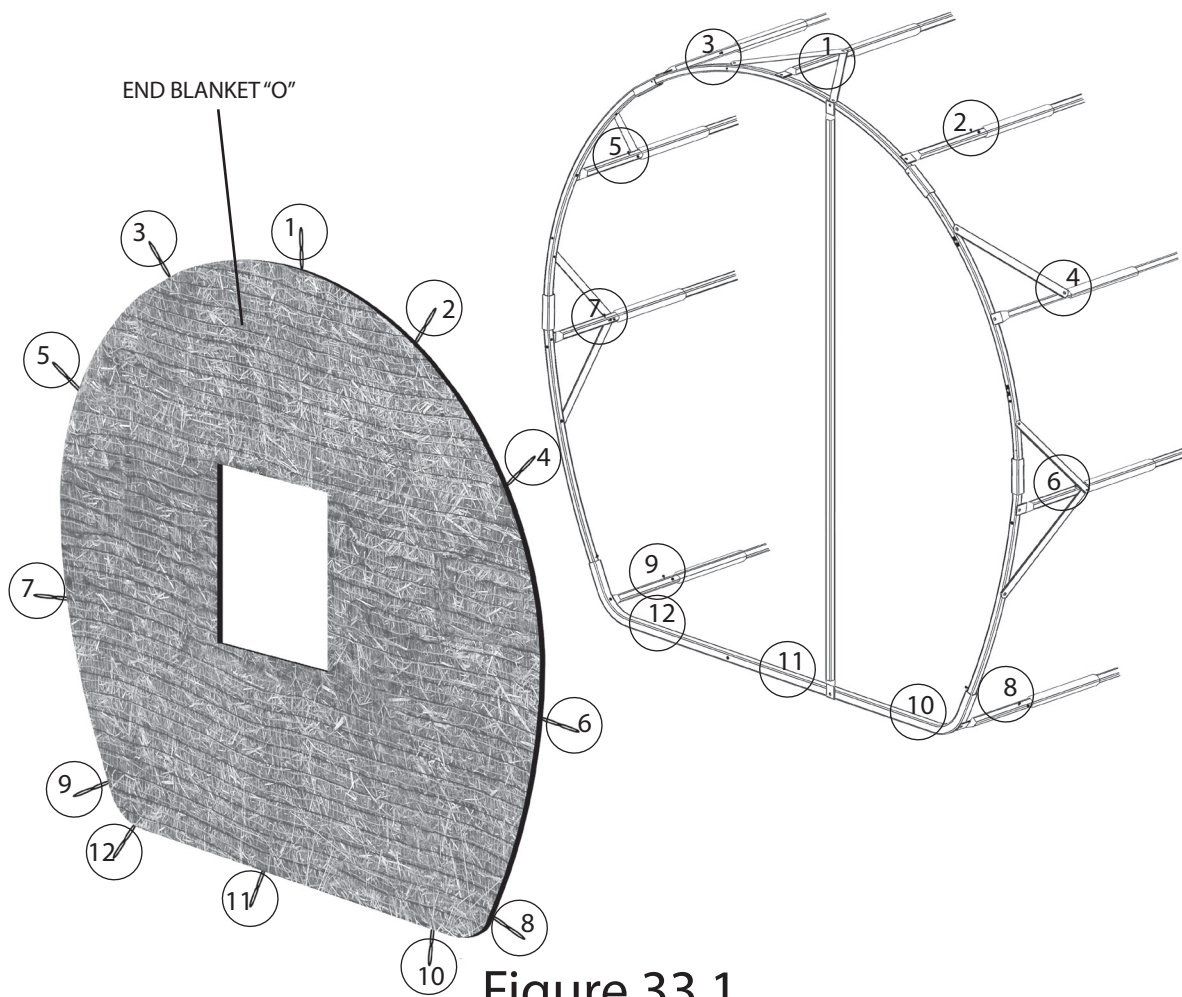

Figure 33.1
STEP 25: Locate the (1) END BLANKET "O" that will be installed on the other end hoop. Repeat Step 24 for the opposing end, attaching each bungee strap to it's corresponding set screw location, starting at the top and working downward following around the perimeter of the end hoop, as illustrated in Figure 33.1.